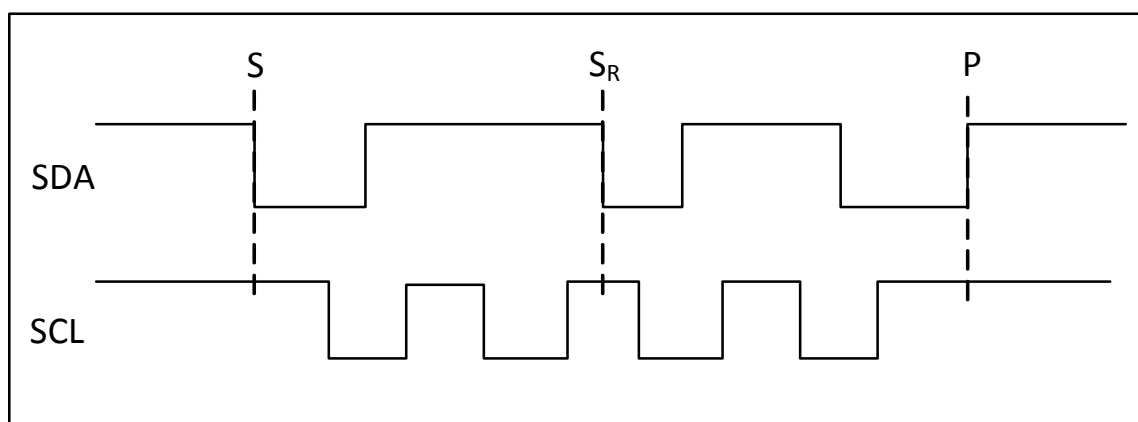
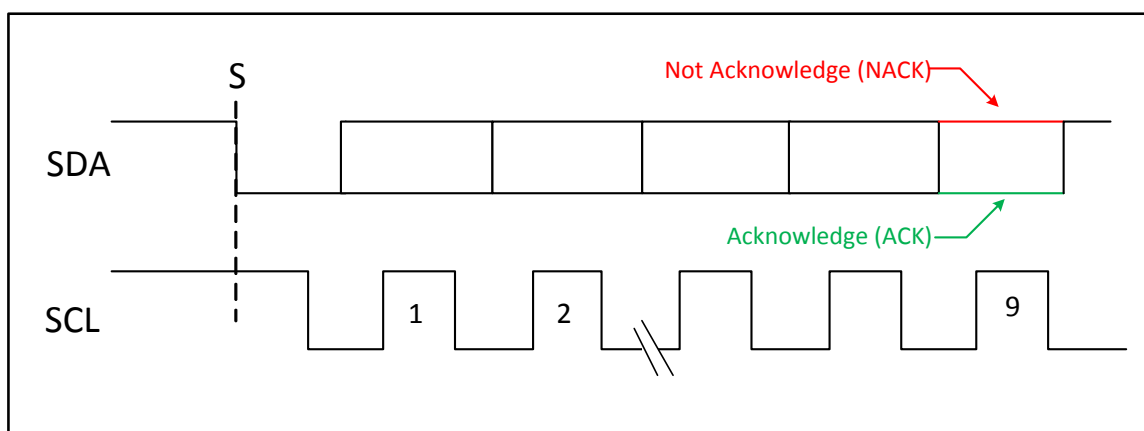

Figure 9. Start and Stop Conditions
Figure 10. Acknowledge Cycle
The I²C/SMBus serial port is a two-wire serial bus where data line SDA is bidirectional and clock line SCL is unidirectional. Reads and writes to this interface by the master are byte-oriented, with the I²C/SMBus master controlling the serial data rates up to 240 kbps. The SDA and SCL lines must be pulled high through pull-up resistors of 5 k Ω or less. An Si8901 ADC read transaction begins with a START condition ("S" or Repeated START condition "SR"), which is defined as a high-to-low transition on SDA while SCL is high (Figure 9). The master terminates a transmission with a STOP condition (P), defined as a low-to-high transition on SDA while SCL is high. The data on SDA must remain stable during the high period of the SCL clock pulse because such changes in either line will be interpreted as a control command (e.g., S, P, SR). SDA and SCL idle in the high state when the bus is not busy. Acknowledge bits (Figure 10) provide detection of successful data transfers, whereas unsuccessful transfers conclude with a not-acknowledge bit (NACK). Both the master and the Si8901 generate ACK and NACK bits. An ACK bit is generated when the receiving device pulls SDA low before the rising edge of the acknowledged related (ninth) SCL pulse and maintains it low during the high period of the clock pulse. A NACK bit is generated when the receiver allows SDA to be pulled high before the rising edge of the acknowledged related SCL pulse and maintains it high during the high period of the clock pulse. An unsuccessful data transfer occurs if a receiving device is busy or if a system fault has occurred. In the event of an unsuccessful data transfer, the bus master attempts communication at a later time. Figure 11A shows the I²C Slave Address Byte and CNFG_0 byte for the Si8901. Figure 11B and Figure 11C show master/Si8901 ADC read transactions for Demand Mode and Burst Mode, respectively.